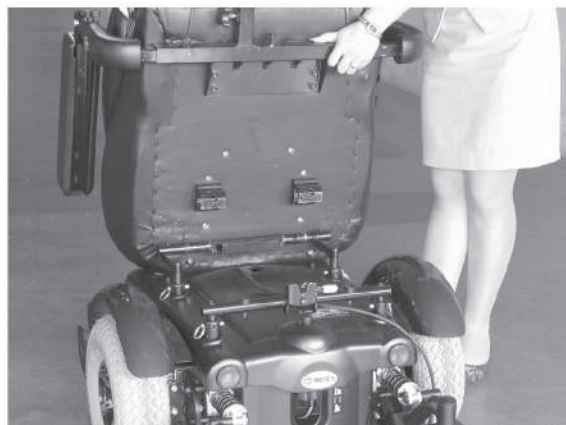

Fig C5
Take off the seat vertically. (Fig C5)
- (1) Lift the seat vertically and Insert the hook into front trapeze bar. (Fig C5)